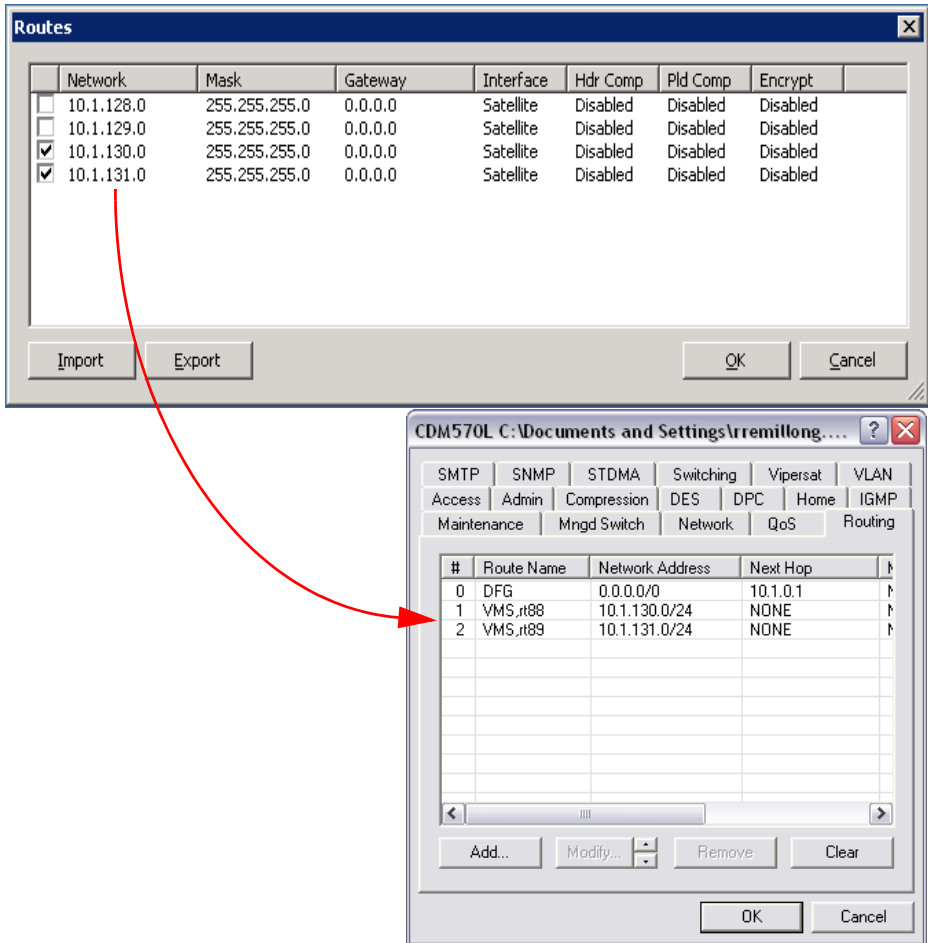

Figure 3-57 Dynamic Routing Entry, CDM-570/570L
8. Click **Routes**. The Routes window will open (figure 3-57).